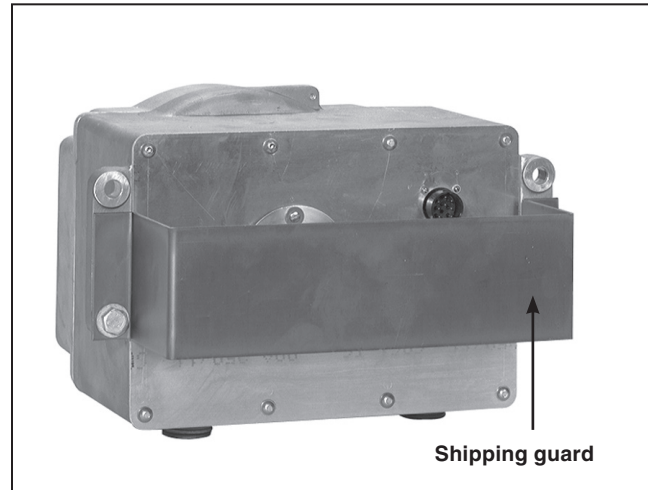

Figure 14. Attaching the shipping guard.
STEP 15. Attach the shipping guard and hardware saved in Step 7 to the replaced high-speed operating mechanism. See Figure 14. Set the replaced operating mechanism in to the replacement operating mechanism crate. Secure the operating mechanism and close the lid. Ship the replaced operating mechanism, transportation charges prepaid, to S&C Electric Company, Repair Center. For product returns, contact a local S&C representative for proper return material authorization documentation.